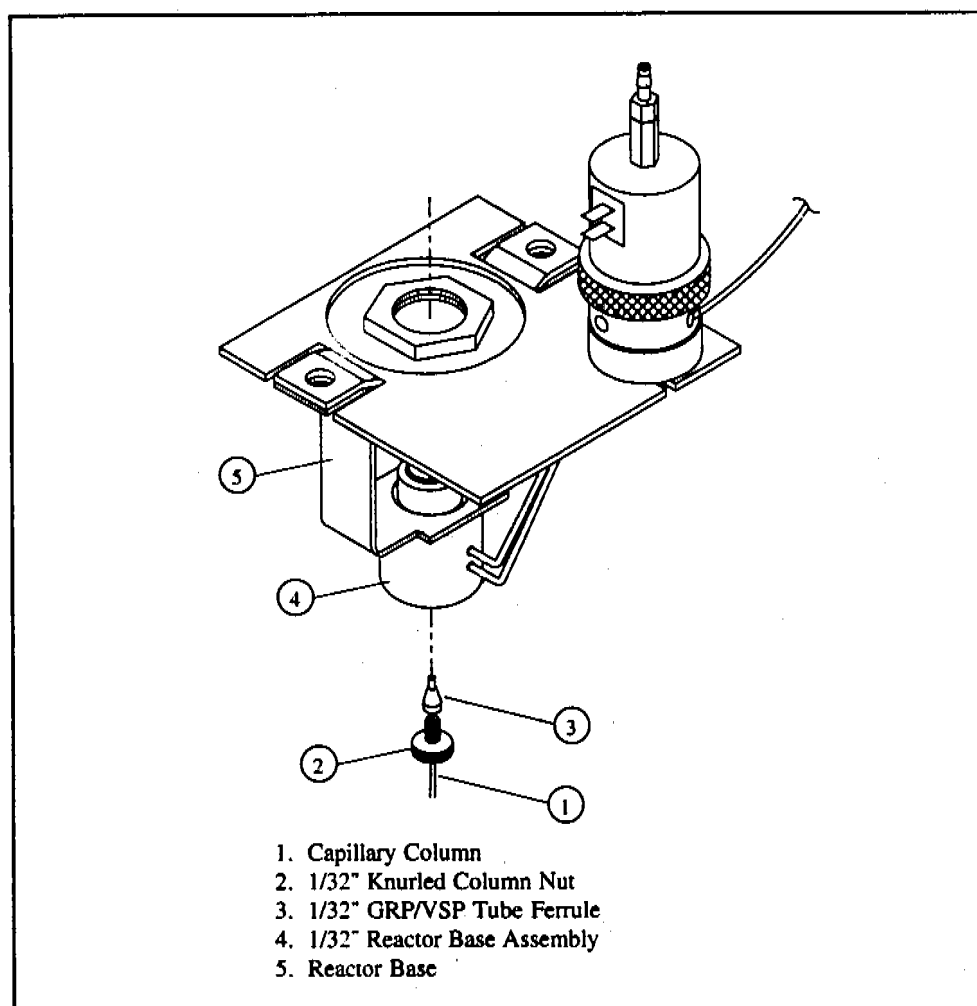

Figure 4.1. Column Installation
- Open GC oven door to install Column. Slide Column through Knurled Nut and GRP/VSP Tube Ferrule. (see Fig. 4.1).
The ELCD base is optimized for 0.53 mm and smaller I.D. capillary columns. To install the column into the detector base (see Fig. 4.1):